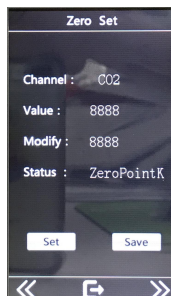

Figure 9
A) press the left and right keys to switch the selection channel. As shown in figure 9